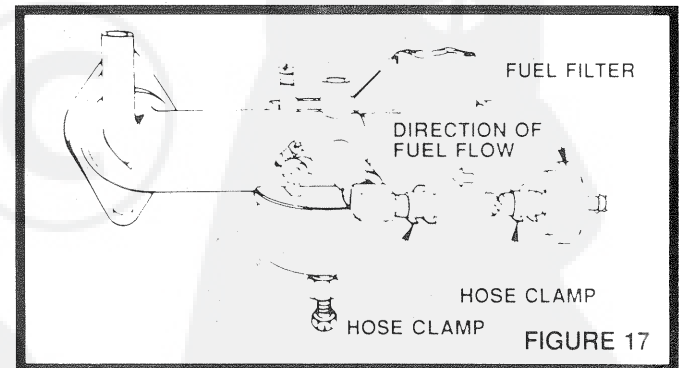

FIGURE 17
- a. With Engine cool, remove and plug fuel line sections as removed from both ends of Fuel Filter (Fig. 17).